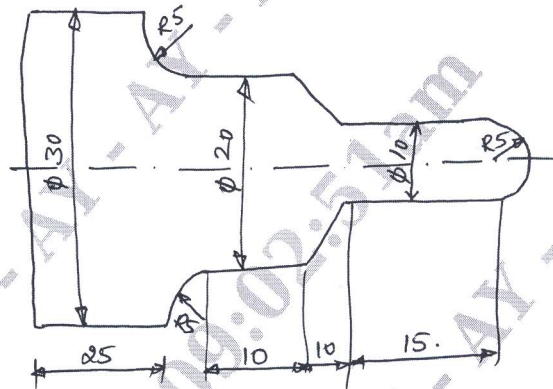

Fig.Q7(c) All dimensions are in mm
c. Write the part program for the part shape shown in Fig.Q7(c). Assume suitable machining parameters.